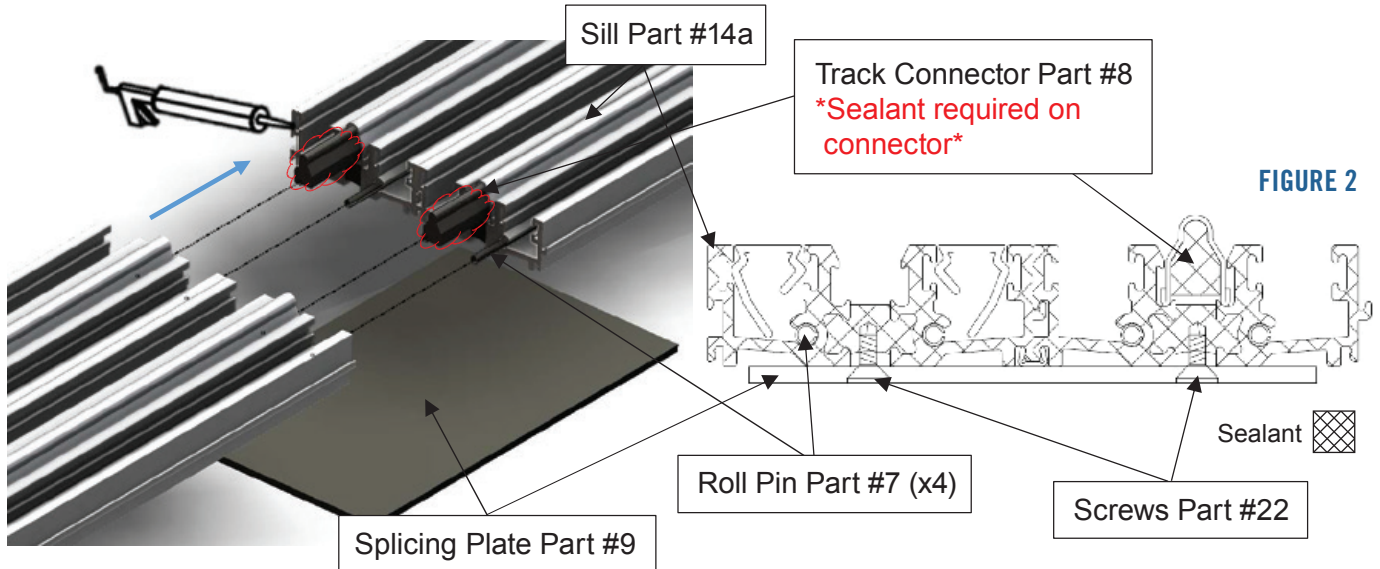

FIGURE 1
1. Splicing is required for doors wider than extrusion stock length. To splice the sill (and Flush Set Sill), insert roll pins (Part #7) halfway into screw channels as shown in Figure 1. Coat track connectors (Part #8) in sealant (Sealant should conform to AAMA 802.3-16 and 803.3-16) and slide halfway into the roller track. Coat the entire cross-sectional face with sealant as shown in Figure 2 and join the components by tapping one track into the other. Lastly, fasten Splicing Plate (Part #9) over the junction using (Part #22) screws. Screw in the location of the thermal dividers (shown in Figure 2). Splicing plate is not required for a flush set sill. Before screwing the plate to the sill, use a $\frac{3}{8}$ " countersink bit to create countersinks for the top of the flat head screws to sit flush with the plate.
2. To splice the head (Figure 1), insert roll pins (Part #7) into the head screw channels. Coat the entire cross section in sealant as shown in Figure 2, join components, and ensure track clip (Part #6) crosses over the splice (if multiple track door). Lastly, attach splicing plate (Part #9) over the junction using (Part #22) screws at the thermal breaks. Countersink the plate for the screws beforehand.